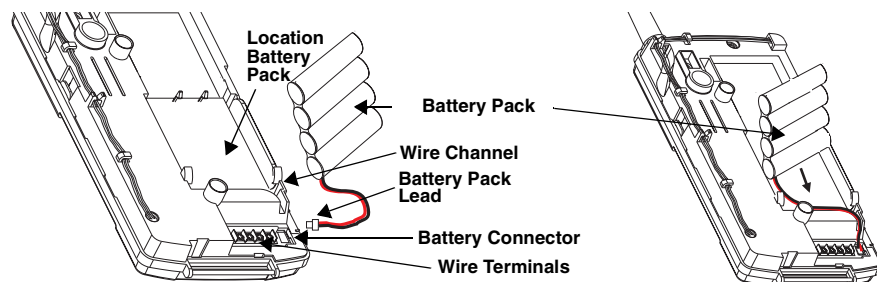

Figure 5. Connecting the Battery Pack
2. Slide the battery pack into the space provided on the back of the panel (Figure 5).
3. Plug the battery pack lead into the slot provided next to the wire terminals (Figure 5).